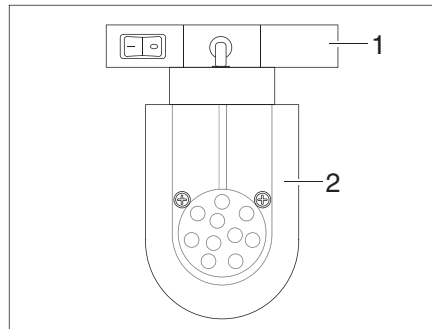

Fig. 60 LED spot light (example)
- Grasp the holder (Fig. 60,1) and turn it 90°.
- Remove the LED spotlight (Fig. 60,2) from the rail system.
- Insert the LED spotlight (Fig. 60,2) into the rail system at the desired position and turn 90°.